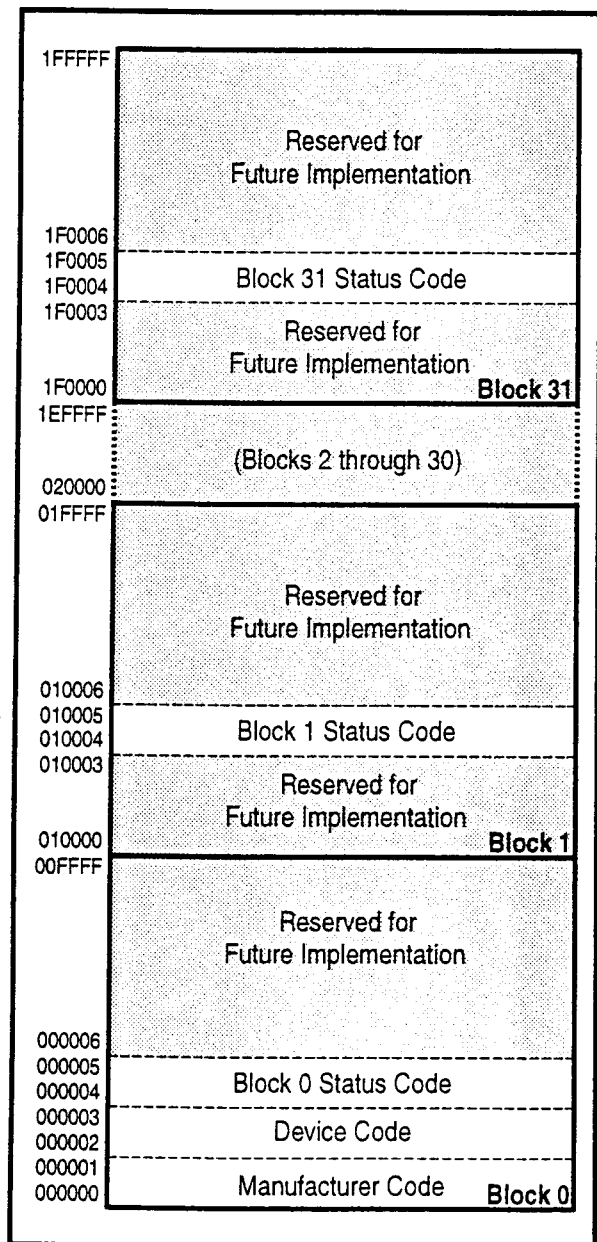

Figure 8. Device Identifier Code Memory Map
IA=Identifier Code Address: see Figure 8.
The identifier code operation is initiated by writing the Read Identifier Codes command. Following the command write, read cycles from addresses shown in Figure 8 retrieve the manufacturer, device, block lock configuration and block erase status (see Table 5 for identifier code values). To terminate the operation, write another valid command. Like the Read Array command, the Read Identifier Codes command functions independently of the V_{PP} voltage and $RP\#$ must be V_{IH} . Following the Read Identifier Codes command, the following information can be read:
1. X selects the specific block status code to be read. See Figure 8 for the device identifier code memory map.